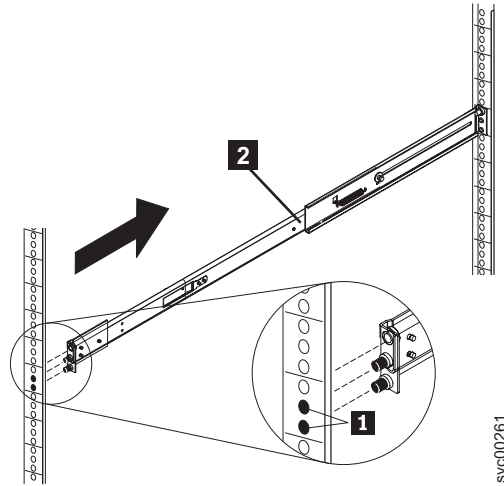

Figure 75. Removing the slide rail from the front of the rack
- Push the rail pins **1** out of the front rack mounting flange, as shown in Figure 75 on page 353, to shorten the right slide rail and remove it from the front flange. Then pull the right slide rail forward to remove the slide rail from the rear rack mounting flange. Remove the left slide rail in the same way.